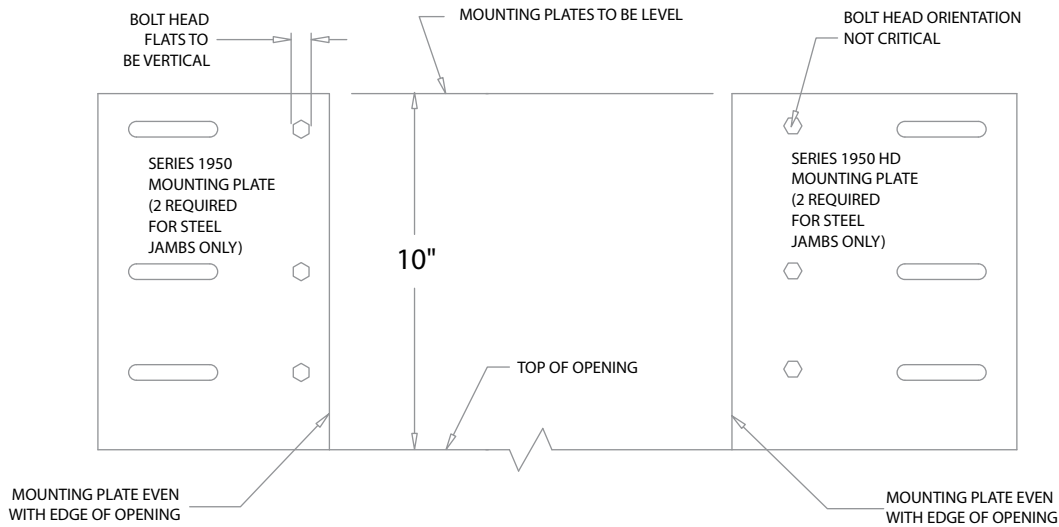

FIGURE 2
- B. Top of mounting plates should be located 10" above top of opening and be level with each other. Side of mounting plates should be even with edge of opening. If opening width is off, adjust locations accordingly. **See figure 2.**
- C. If mounting plates are bolted to jambs, orient flats of attachment bolts in a vertical plane. **See figure 2.** Do not use a flat washer between bolt and mounting plate.